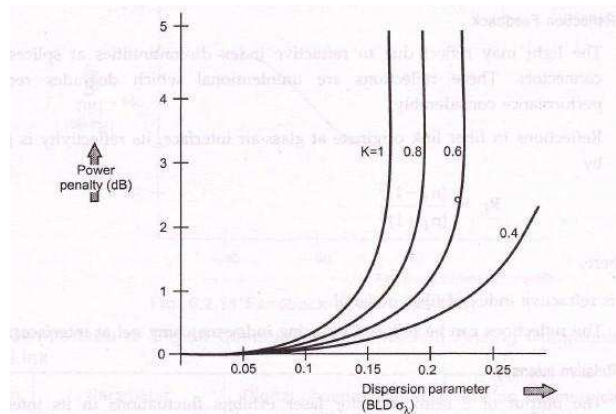

Fig. 6.2.9 MPN induced power penalty
- x A power penalty is paid to improve SNR for achieving desired BER. Fig. 6.2.9 shows power penalty at BER of  $10^{-9}$  as a function of normalized dispersion parameter (BLD  $\sigma_\lambda$ ) for different values of mode partition coefficient (K). (See Fig. 6.2.9 on next page.)